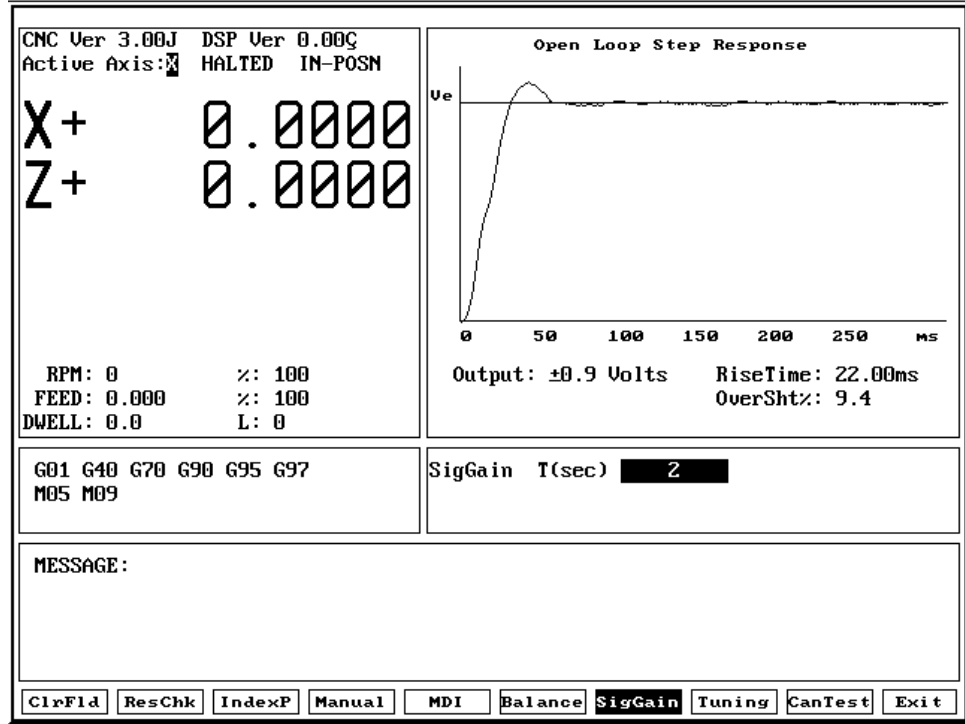

Figure 9, Signal Gain (SigGain) Screen
3. Refer to **Figure 9, Signal Gain (SigGain) Screen**. Look at the Prompt Area of the MST screen. Enter a timed delay at the **T(sec)** entry field (two seconds is usually adequate). The graph in the Graphic Area plots machine motion as follows: